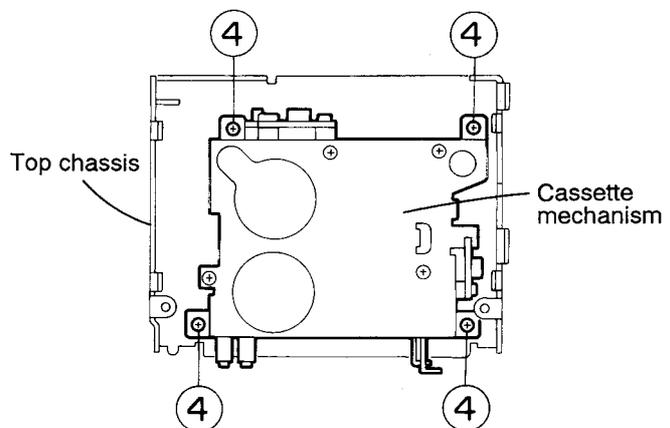

Fig. 2-8
■ Removing the Cassette mechanism assembly (See Fig. 2-8)